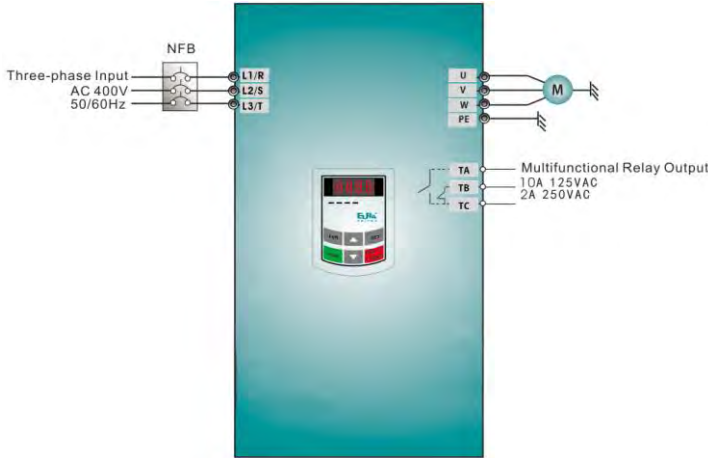

Figure 4-1 Wiring Diagram 1
- (1) Connect the wires in accordance with Figure 4-1. After having checked the wiring successfully, switch on the air switch, and power on the inverter.
- (2) Press the **Fun** key, to enter the programming menu.
(3) When F137=3, measure the parameters of motor stator resistance parameter. When F137≠3, go to step 4.
- (1) Connect the wires in accordance with Figure 4-1. After having checked the wiring successfully, switch on the air switch, and power on the inverter;
- (2) Press the “Fun” key, to enter the programming menu.
- (3) Study the parameters of the motor: the operation process is the same as that of example 1.
- (4) Set functional parameters of the inverter: